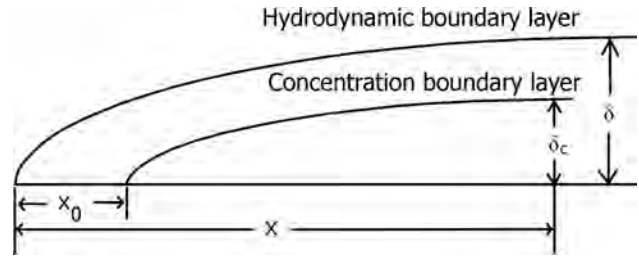

FIGURE 15.3 Laminar hydrodynamic and concentration boundary layers for a flat plate.
- Figure 15.3 illustrates the relative positions of laminar hydrodynamic and concentration boundary layers for a flat plate.